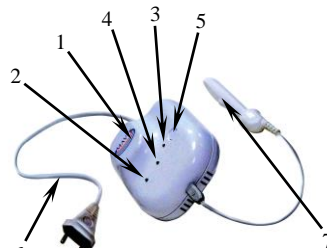

Fig. 1
MAVIT device (Fig. 1) consists of a power-supply unit (1) with “POWER” light emitting diode, indicating the unit connection to alternating-current mains (2); ON/OFF button (5) activating and dis-activating applicator operating mode (heat, magnetic field and vibration) which both is being signaled with lighting of “RUN” light emitting diode (4) and activation of timer, defining run cycle time, that is followed with lighting of “ON/OFF” light emitting diode (3); mains cord (6) and patient’s cable (7) on it. The patient’s cable is (2.0±0.1)m length, the length of mains cord is (2.0±0.1).